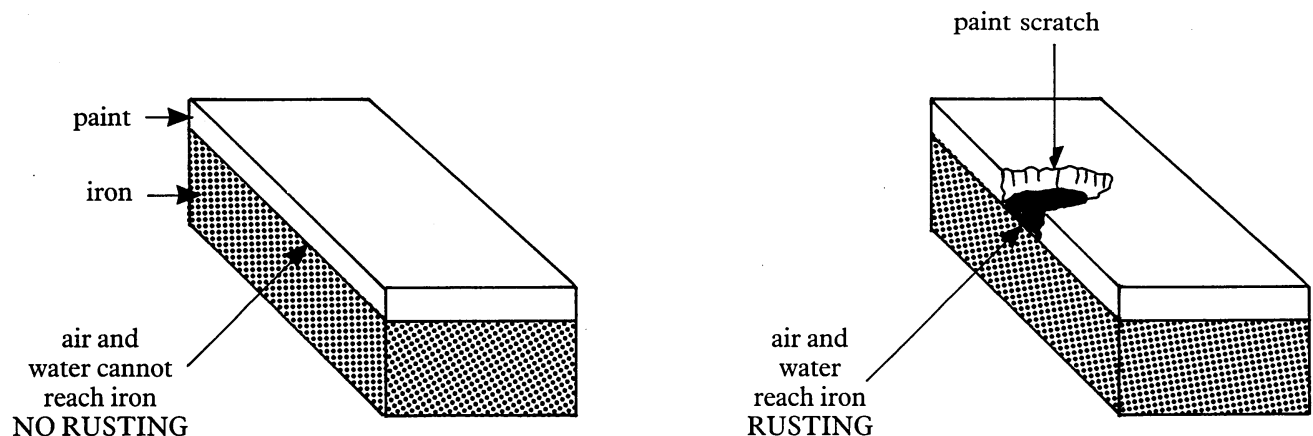

Figure 2 Protecting iron by painting
- (b) *By painting* Paint keeps out water and air, but as soon as the paint cracks or peels off, rusting begins (Figure 2).